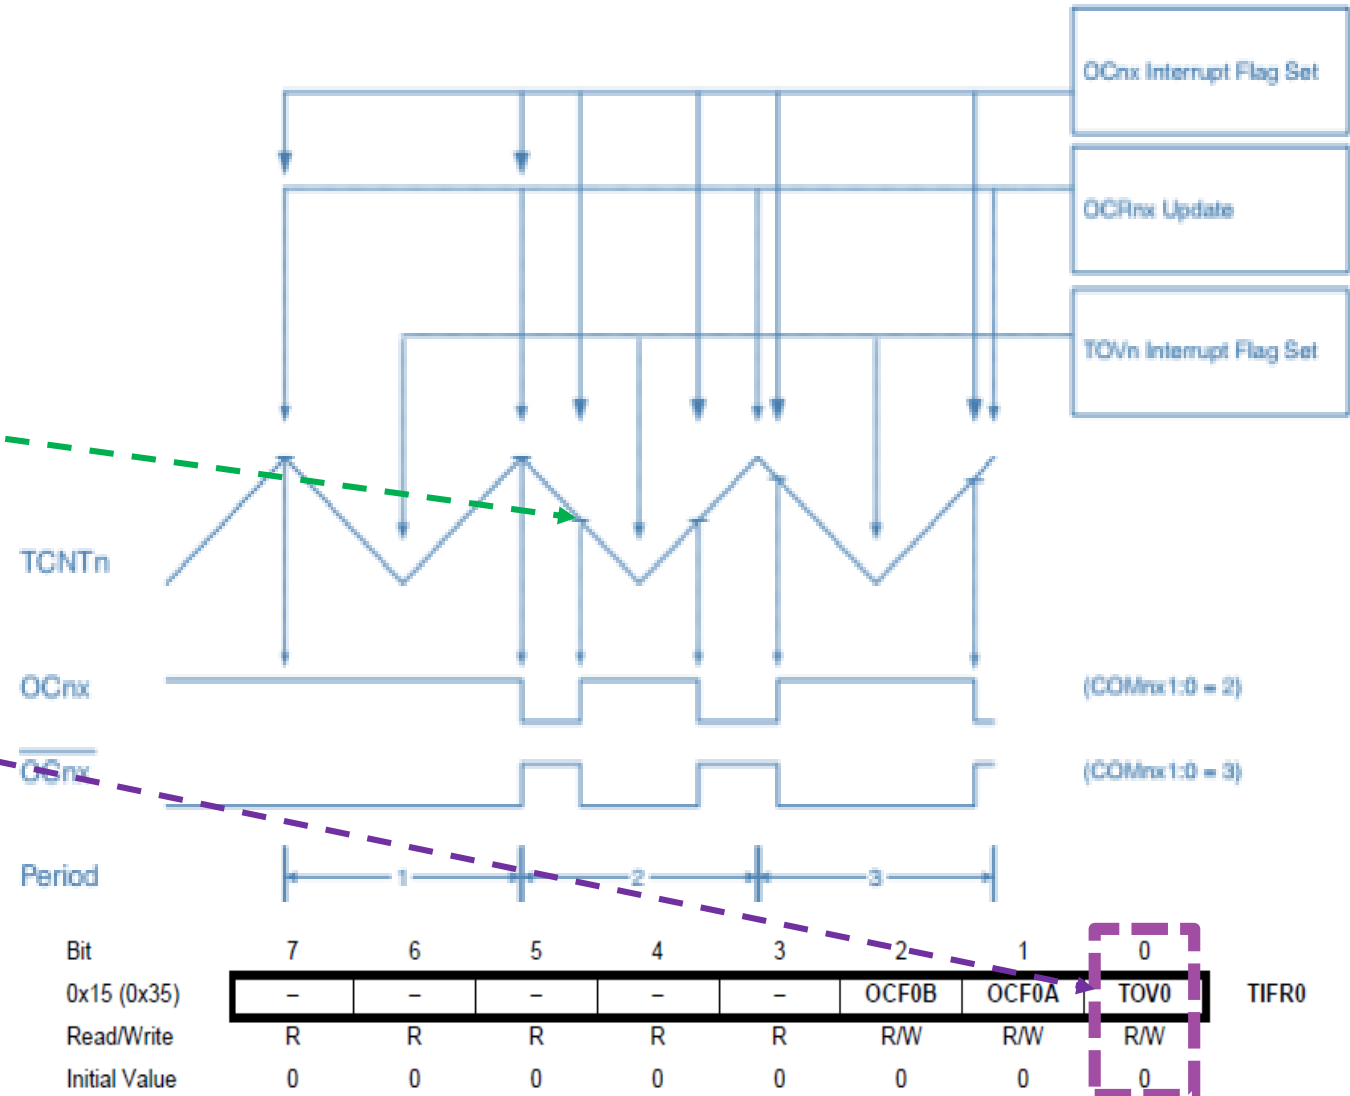

Figure 12.7 Timing Diagram of the Phase Correct PWM Mode
- The TCNT0 value will be equal to TOP for one timer clock cycle. The timing diagram for the phase correct PWM mode is shown on **Figure 12.7**.